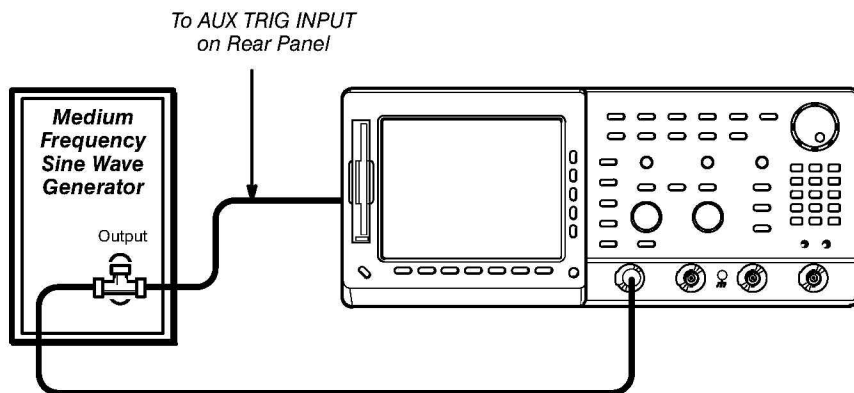

Figure 4-18: Initial Test Hookup
- Connect the signal output of a medium-frequency sine wave generator to a BNC T connector. See Figure 4-18.
- Connect one output of the T connector to **CH 1** through a 50 Ω precision coaxial cable. See Figure 4-18.
- Connect the other output of the T connector through a second 50 Ω precision coaxial cable to the **AUX TRIG INPUT** at the rear panel. See Figure 4-18.